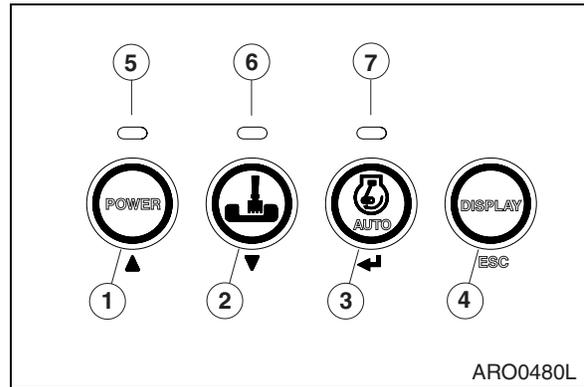

Figure 46
2. Select the work mode using button (2, Figure 46) before starting work.
3. When the work mode button (2, Figure 46) is pressed, a signal sounds, changing the work mode to either "Digging Mode" or "Trenching Mode." When the trenching mode is selected, the LED indicator (6, Figure 46) turns "ON." When the digging mode is selected, the LED indicator (6, Figure 46) turns "OFF."
3. When the LED indicator (7, Figure 46) is turned "ON," the auto idle function is activated. Deactivate the auto idle function by again pressing the auto idle selection button (3, Figure 46). At this time the LED indicator will be turned "OFF."